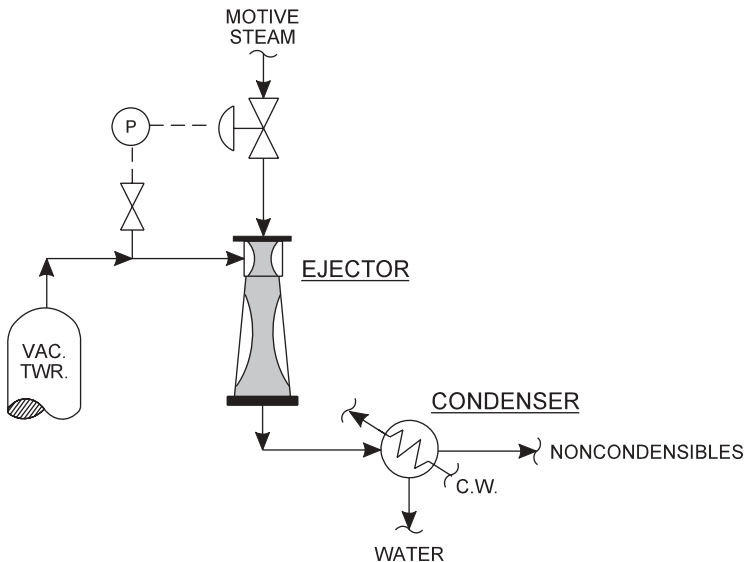

Figure 1-5 Too much steam flow causes a loss in vacuum
- **Vacuum Ejector**—Some refineries control vacuum tower pressure by controlling the motive steam flow to the steam ejector. As the steam pressure and flow to the ejector increases, the ejector pulls a better vacuum, as shown in Figure 1-5, but as the steam flow increases, so does that load on the downstream condenser. As the condenser becomes overloaded, the ejector discharge pressure rises. At some point the increased discharge pressure adversely affects the ejector's suction pressure. A further increase in motive steam will make the vacuum worse, instead of better. As the vacuum gets worse, the control loop calls for more steam. Having now entered the positive feedback mode of control, the problem feeds upon itself.